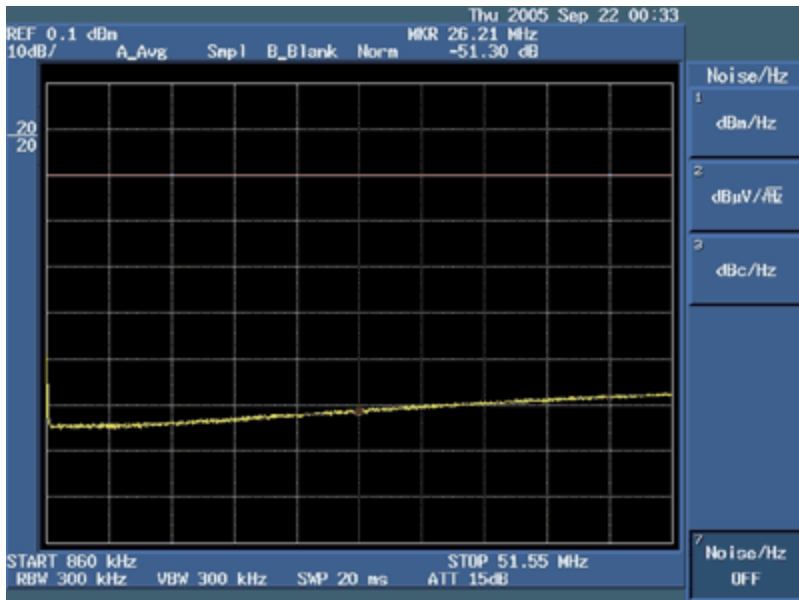

Figure 9. Return Loss with 75Ω termination.
6. Use the **MKR** key from the front **MARKER** panel. Then use the data knob to go to the frequency of interest to measure return loss at that frequency, as shown in **Figure 9**.